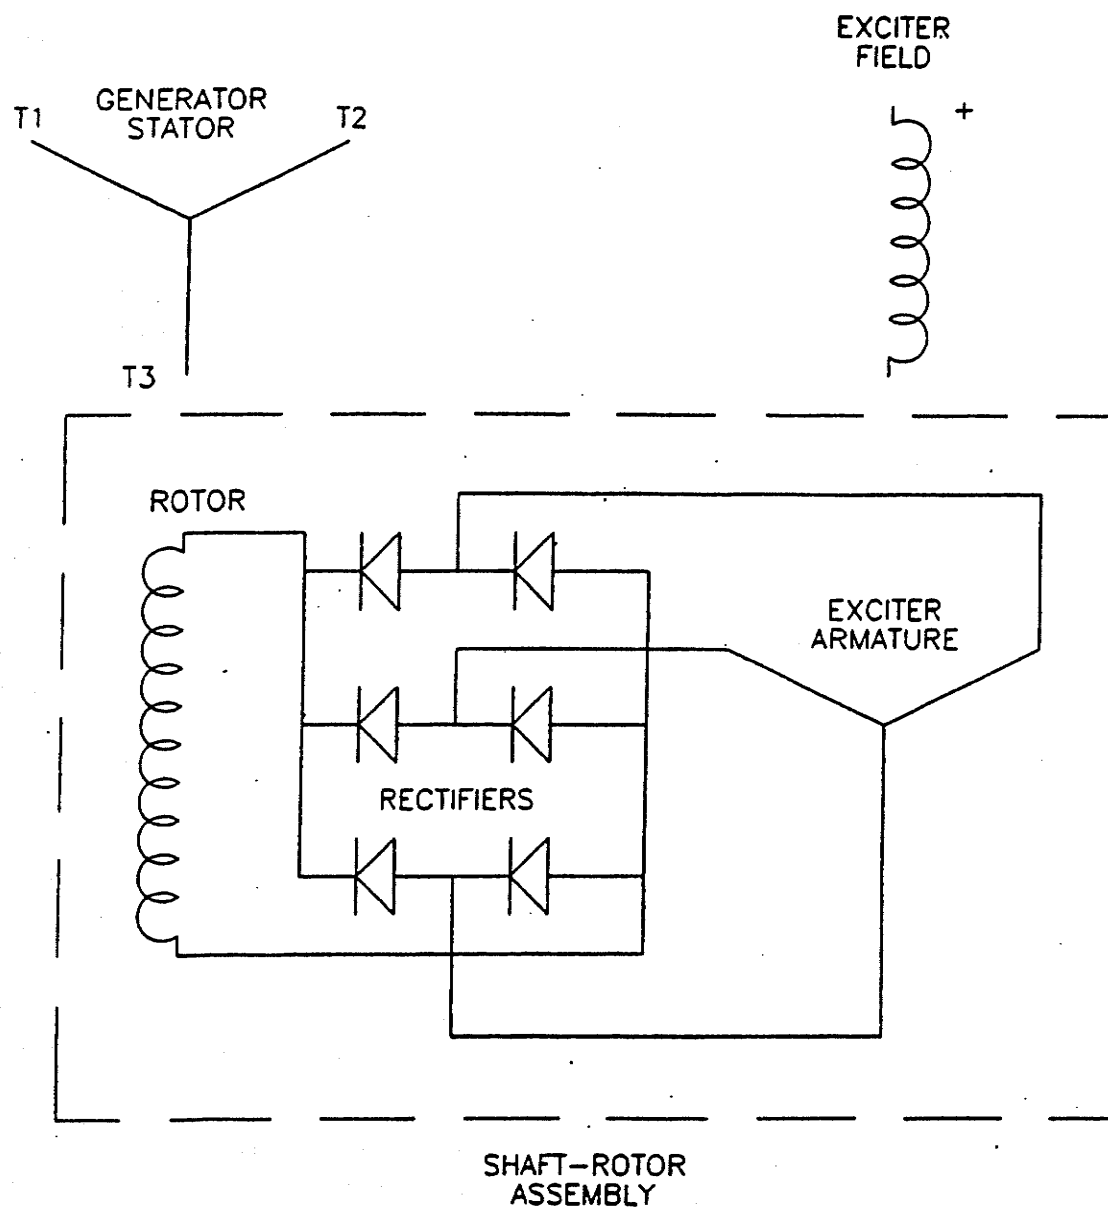

FIGURE 1-28. BRUSHLESS GENERATOR SCHEMATIC
- 1.16.12.1 General. Revolving field type generators have a DC field revolving within a stationary AC winding called the stator. See brushless generator schematic, Figure 1-28. AC power is distributed from the generator through leads connected to the stator windings. There are no sliding contacts between the AC winding and the load, therefore, great amounts of power may be drawn from this generator.